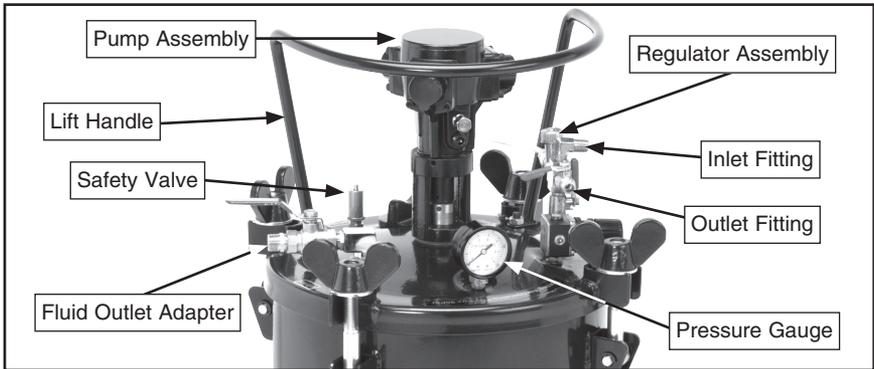

Figure 2. Lid assembly identification.
2. Connect a $\frac{1}{4}$ NPT air supply hose (not included), to the inlet fitting on the regulator (**Figure 2**).